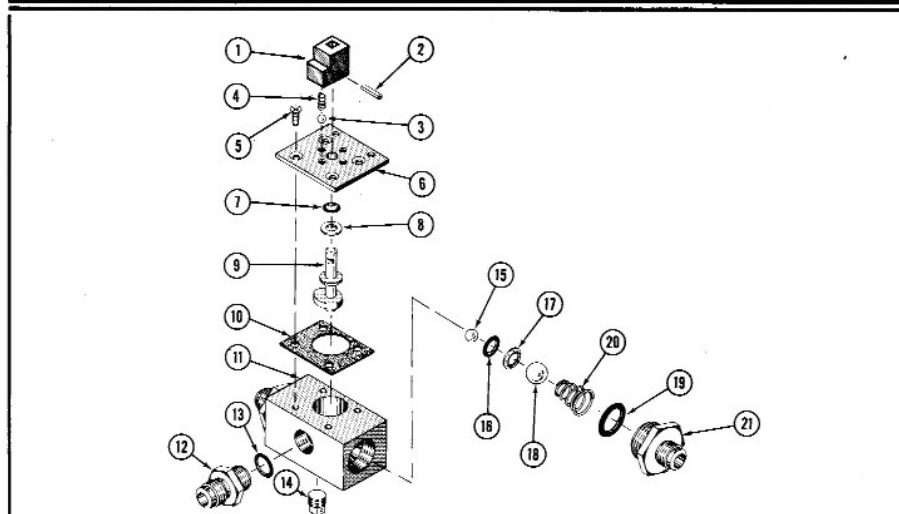
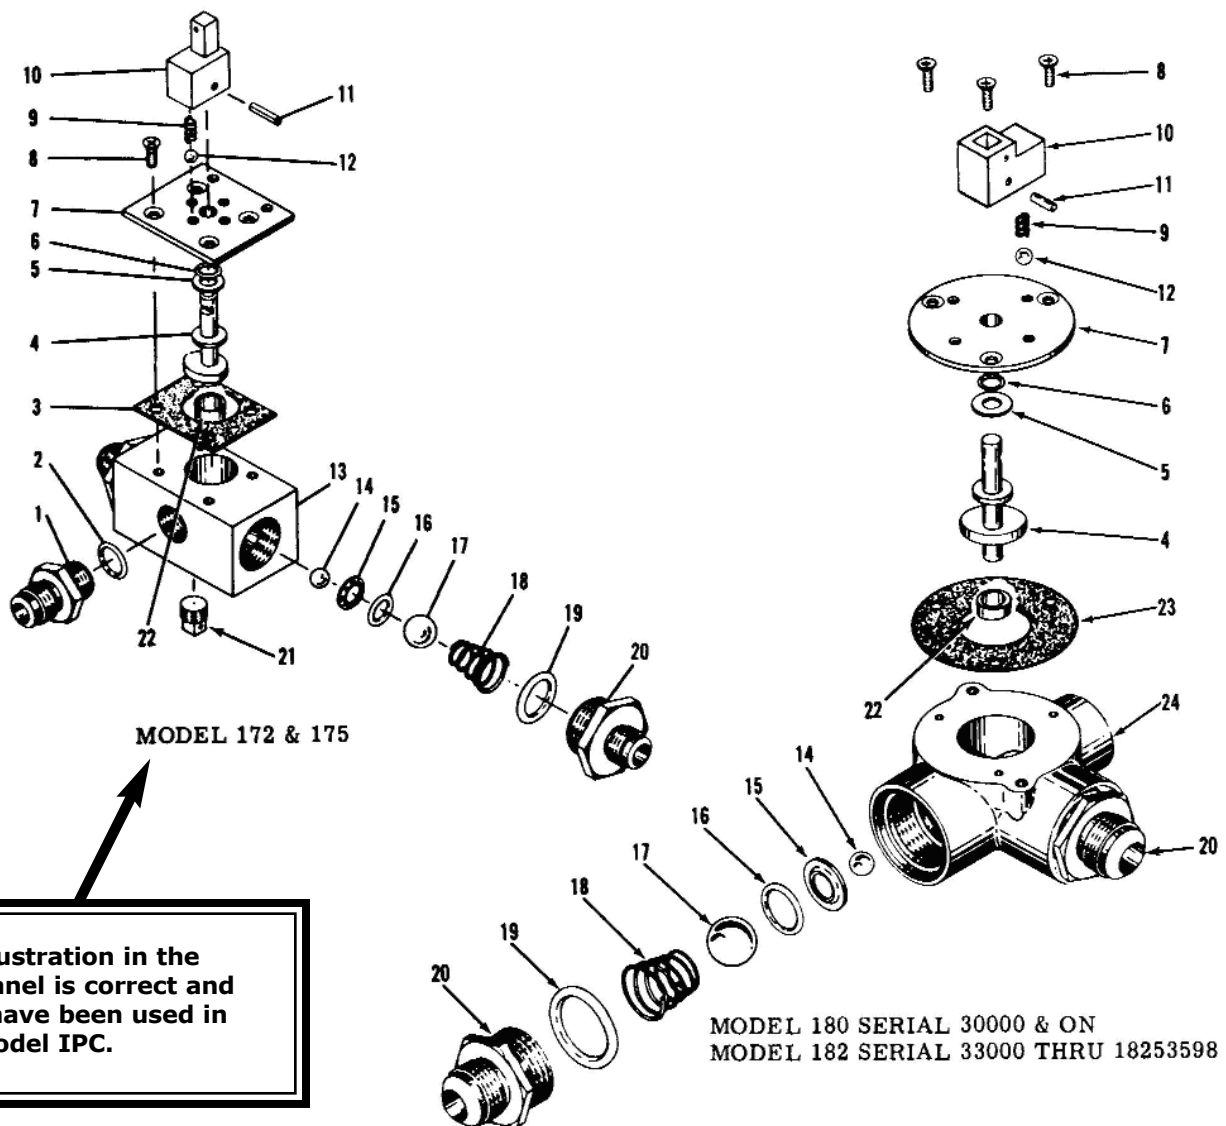

FIGURE 64. FUEL SELECTOR VALVE ASSEMBLY
Figure 13-9. Fuel Selector Valve Details (Sheet 1)
This topic was first brought to my attention at the discussion-forums (<http://www.cessna170.org/forums>) in "The Hangar" by a thread begun by Bruce Fenstermacher, who discovered an error in the **IPC** for the B-model fuel selector valve, Fig. 64, page 106. (See Fig. 64 on page 14)
FIRST PROBLEM: In this illustration (Fig. 64, page 106 of the B model IPC), an error exists in that the O-ring (item 16) is shown on the WRONG SIDE of the Retainer (item 17). This is the error noted in the NTSB report, and frankly, it would be difficult to assemble the valve in this sequence/order due to the fact that the Retainer (a fragile metal-ring which SHOULD NOT normally BE REMOVED during valve-repair) provides a residence for the O-ring which is replaceable and serves to provide a seal against which the check-ball (item 18) rests when that side of the valve is selected to be OFF.
SECOND PROBLEM: The IPC makes another error which may also have existed in the accident airplane - and WHICH I KNOW TO HAVE EXISTED in my fuel valve and several others. Compare the previous illustration Fig.64 with the "Cessna 100 Series Service Manual, 1962 and Prior" illustration Fig 13-9, Page 13-7 (and reprinted in this issue on page 16), of the same valve. The valve in the upper-left corner of this illustration, labeled "C-172 and C-175" is the same valve in question.
NOTICE ITEM 22 "BUSHING" which is completely missing in the B model IPC Fig. 64.
This may be a common error due to the IPC illustration errors which may mislead fuel selector valve repairs. (When the valve is re-assembled, an appearance of excessive clearance between the cover-plate and the top of the Cam will lead the assembly-person to believe the top O-ring (item 6 in the Service Manual, but item 7 in the IPC) may fall too low into the body and subsequently fail to seal. This mistaken belief is likely reinforced by the most common failure of these valves....a leak at that top O-ring!) Such a mistaken belief may lead the assembler to place the two "washers" he/she found within the body on top of the Cam....not realizing that one of the "washers" is actually a BUSHING and belongs **BENEATH** the Cam, as shown in the Service Manual illustration Fig. 13-9.
CORRECTIVE ACTION: Make a notation in your IPC that a "Bushing" exists beneath the Cam, as shown in the Service Manual Fig 13-9. When re-assembling your valve, carefully ascertain that the cam-lobes "ride" at the median circumference of the operation-balls and that the Cam cannot be depressed to allow the operation-balls to fall into the cavity of the valve-body.